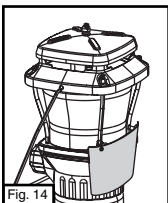

Fig. 14
■ Storage position. Reflector hangs from back rails. (Fig. 14)